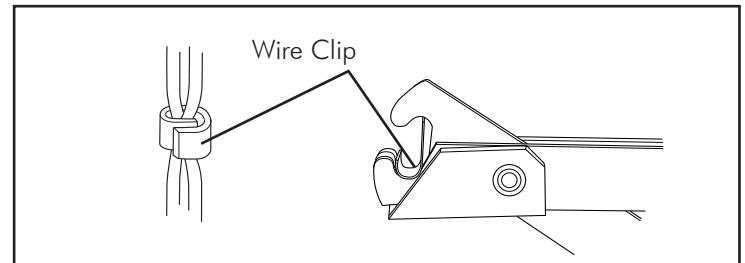

Figure 1
1. Place ACC1 Wire Cage Clip in the pliers. See Figure 1.